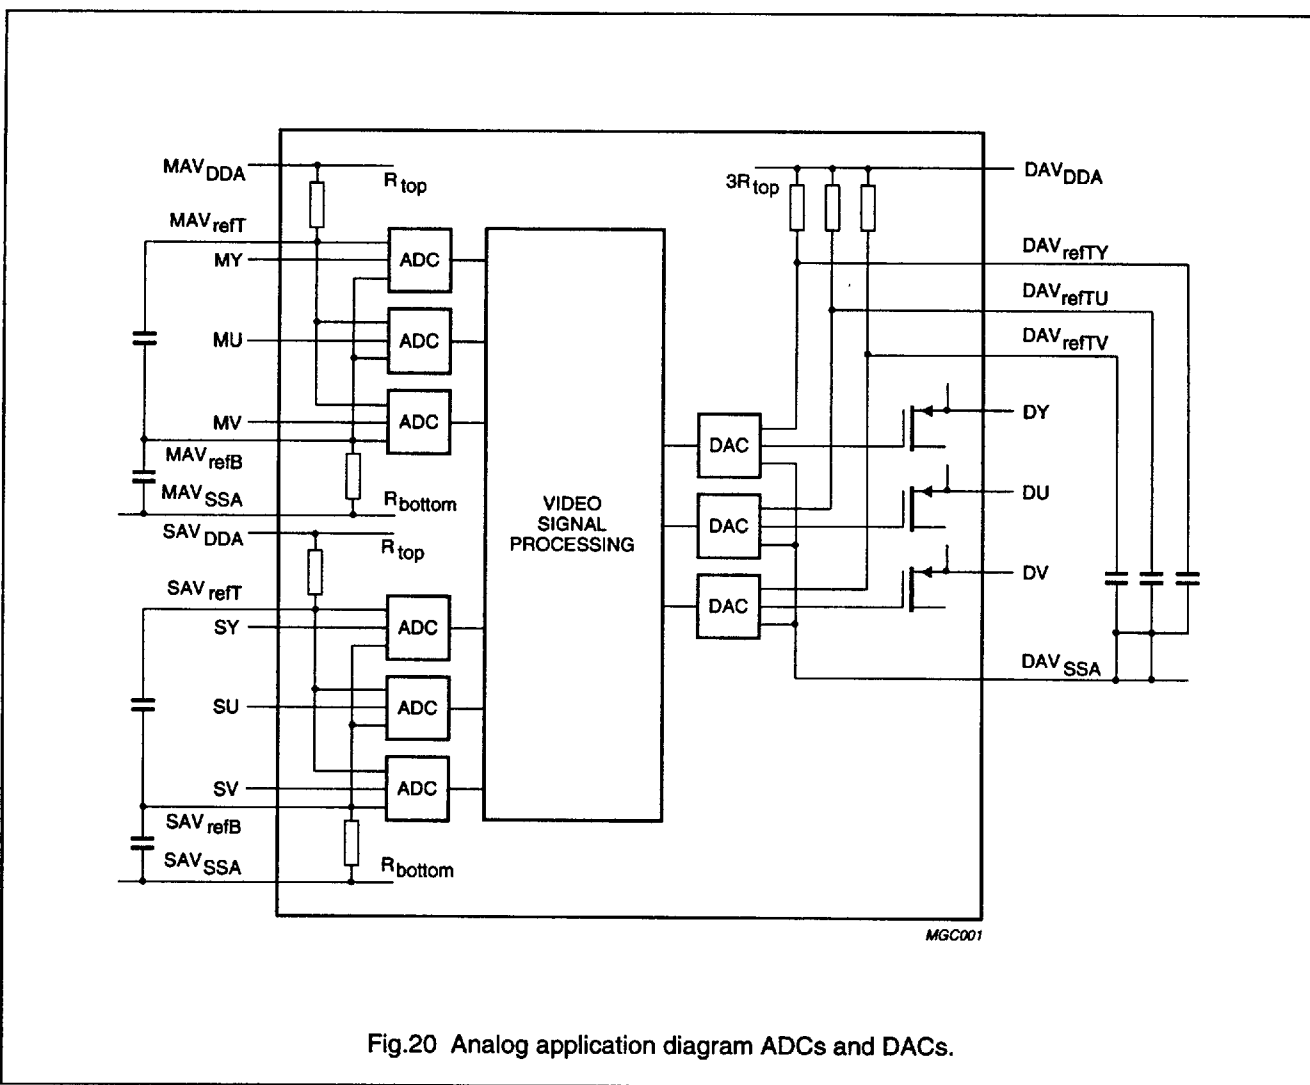

Fig.20 Analog application diagram ADCs and DACs.
- The input configuration of the ADCs is depicted in Fig.20. The minimum difference $AV_{refT} - AV_{refB}$ should be larger than 1.0 V. The reference voltages can be calculated as follows:
Fig.20 shows how the ADCs and the DACs can be connected in the application.